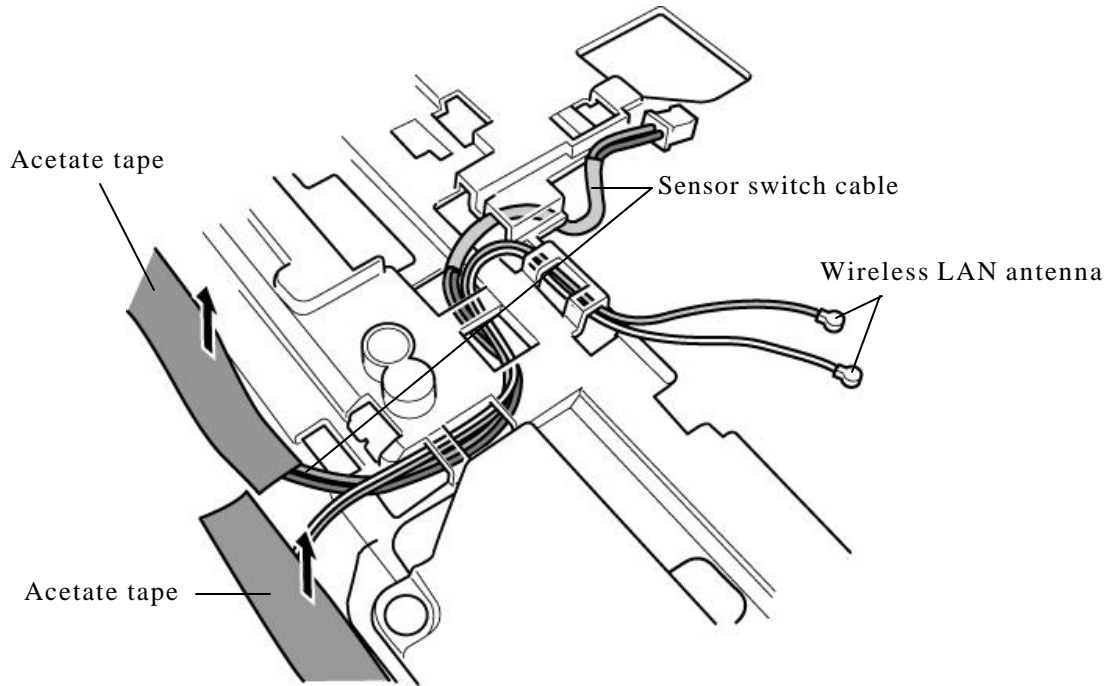
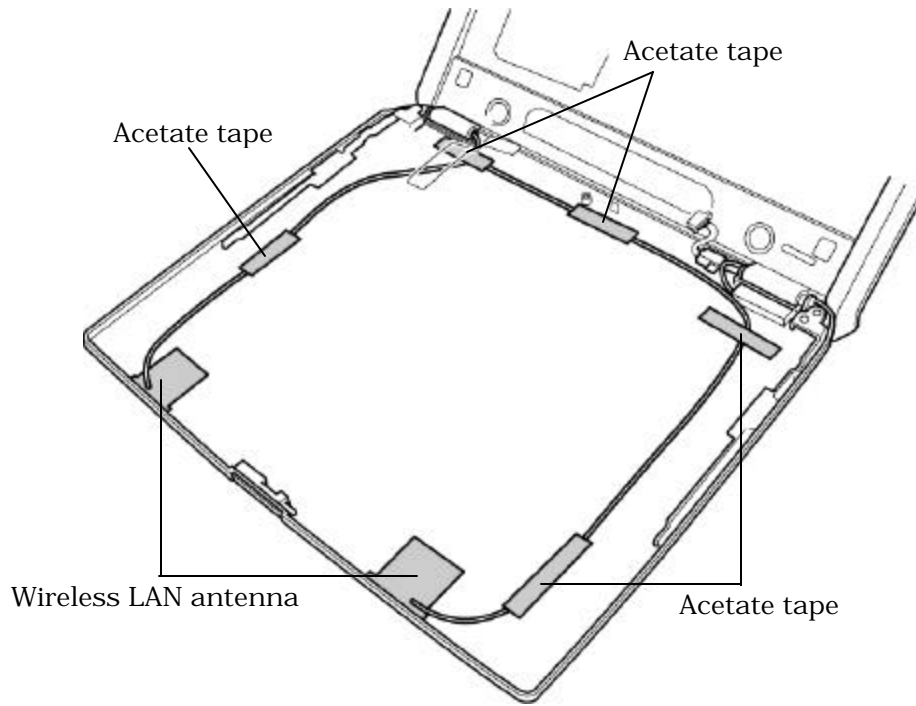

Figure 4-41 Removing the sensor switch cable
Figure 4-43 Removing the wireless LAN antenna
8. Peel off the five **acetate tapes** on the front (figure4-43) and one **acetate tape** (figure4-41) on the back fixing the wireless LAN antenna cable.